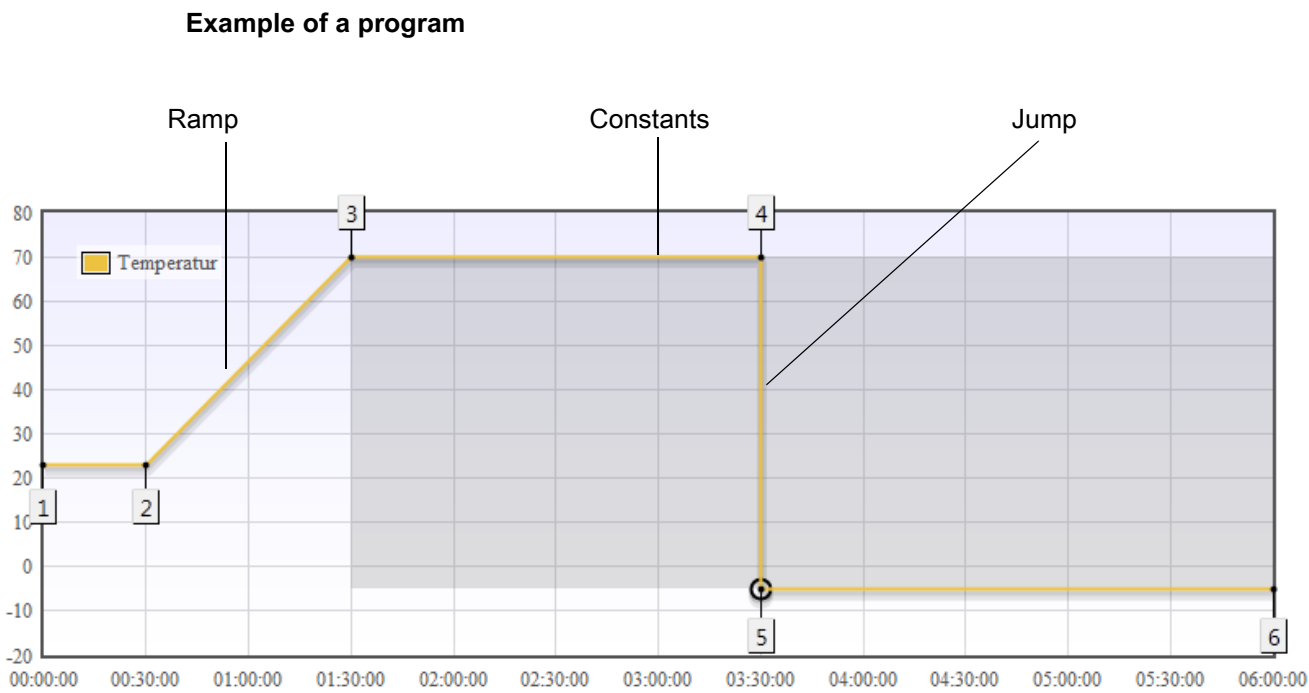

Fig. 6-1 Example of a program
If you want to program a ramp, such as between steps 2 and 3 in → *Fig. 6-1 »Example of a program«* (page 80), proceed as follows:
- ▶ Program another step. In doing so, copy the nominal temperature value from the previous step, but this time define the duration required for the constant, cf. steps 3 and 4, as well as steps 5 and 6 in → *Fig. 6-1 »Example of a program«* (page 80).
If you want to program a jump, such as between steps 4 and 5 in → *Fig. 6-1 »Example of a program«* (page 80), proceed as follows: